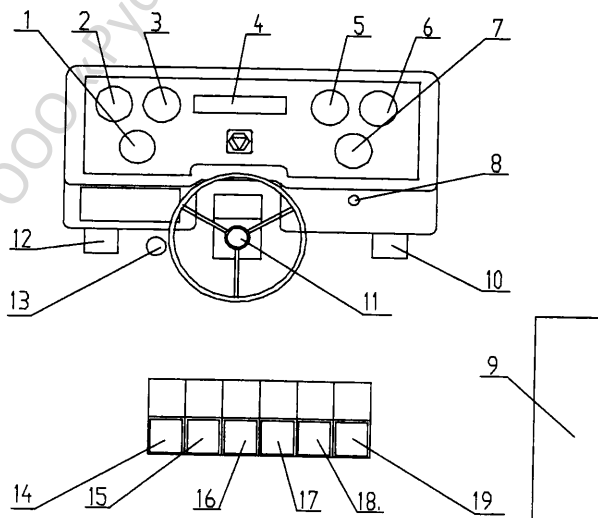

Fig 2-1 Operation mechanism and apparatus
1、 Operation mechanism and apparatus (Fig. 2-1)